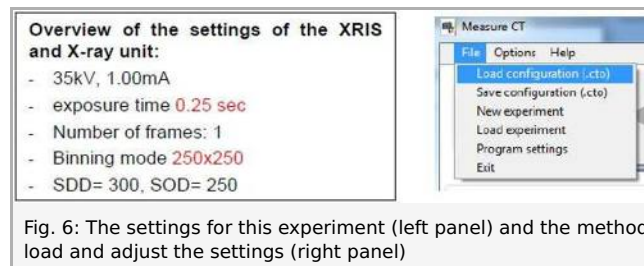

Fig. 6: The settings for this experiment (left panel) and the method load and adjust the settings (right panel)
- Adjust the X-RI settings and X-ray unit settings according to Fig. 6 or load the configuration from the predefined CTO file 'Experiment 7' (see Fig. 6).
- Start a new experiment, give it a unique name and fill in your details (Fig. 6). Alternatively it is also possible to load this experiment with pre-recorded images and open this manual. The correct configuration will be loaded automatically as well but the functionalities of the software will be limited to avoid overwriting the existing data.